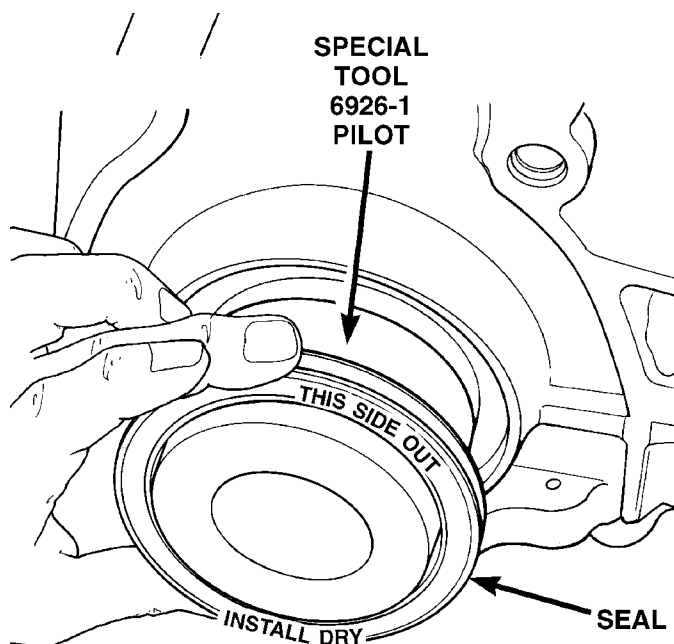

Fig. 63 Rear Crankshaft Seal and Special Tool 6926-1
(1) Place Special Tool 6926-1 on crankshaft. This is a pilot tool with a magnetic base (Fig. 63).
(2) Position seal over pilot tool. Make sure you can read the words **THIS SIDE OUT** on seal (Fig. 63). Pilot tool should remain on crankshaft during installation of seal. Ensure that the lip of the seal is facing towards the crankcase during installation.